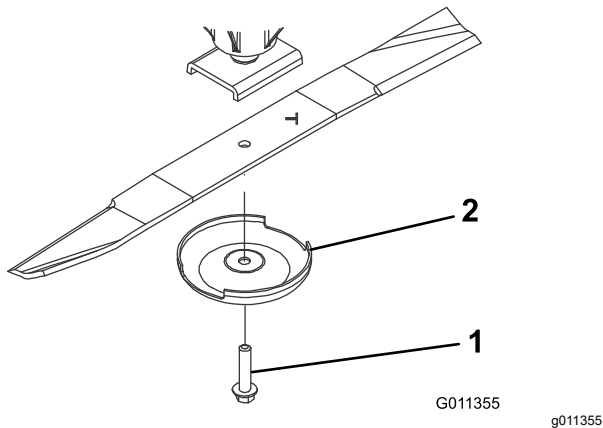

Figure 97
- Remove the blade bolt, anti-scalp cup, and blade from the spindle shaft (Figure 97).